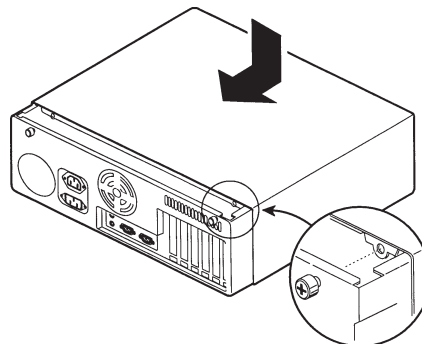

Figure 2-2. Replacing the cover.
- 1) **Replace the cover (Figure 2-2).**